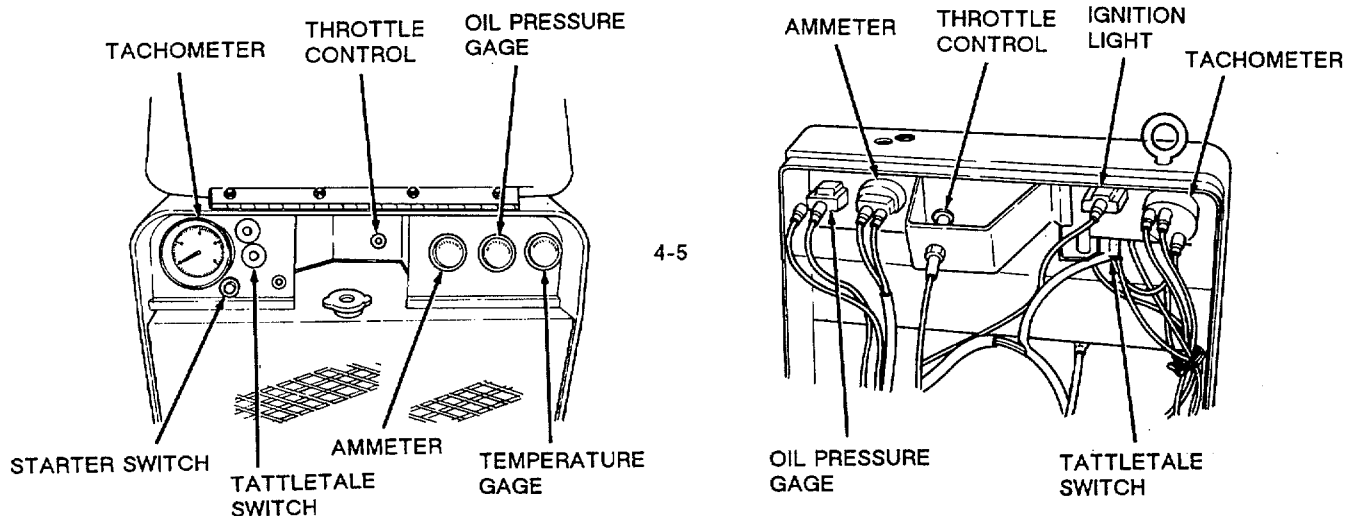

Figure 4-5. Engine Safety Devices.
- (1) Disconnect and tag wires from tattletale switch, ignition switch, and starter switch at engine instrument control panel (see Figure 4-5).
- (2) Install ignition switch (1) to control panel with knurled nut.
- (3) Install fuse (3) in tattletale switch (2).
- (4) Install tattletale switch (2) to control panel with washer and retaining nut.
- (5) Connect wires to tattletale switch, ignition switch, and starter switch as tagged (see Figure 4-5).
a. *Removal (See Figures 4-5 and 4-6).*
- (1) Disconnect the pressure line from the oil pressure gage.
- (2) Apply a known pressure to the oil pressure gage switch and compare the gage reading with the actual pressure. If the oil pressure gage reading is inaccurate, replace the oil pressure gage switch.
- (3) Reset the tattletale switch and turn the ignition switch to ON.
- e. *Installation (See Figures 4-5 and 4-6).*